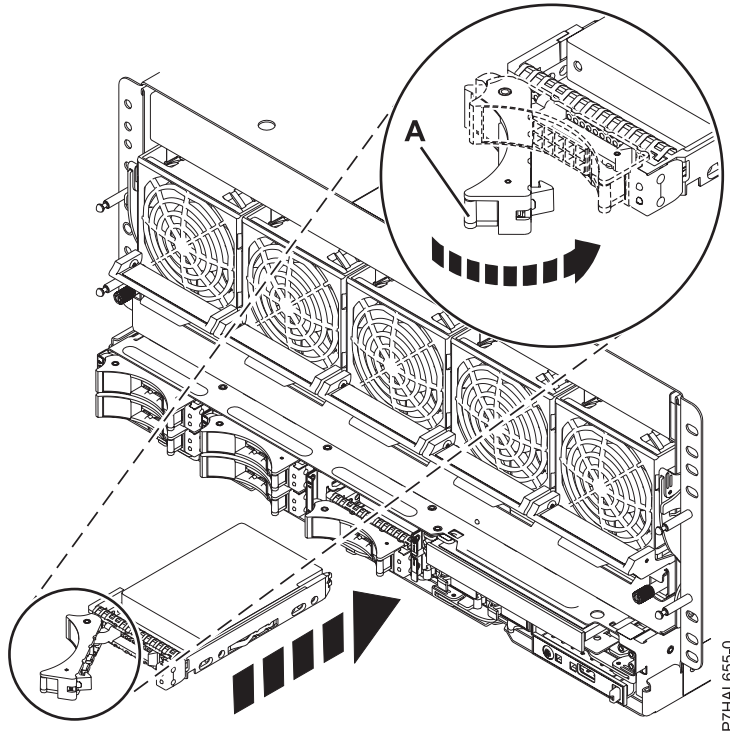

Figure 42. Replacing a disk drive in the system
8. When the identify LED turns on solid, slide the disk drive or solid-state drive all the way into the system or an expansion unit, and push the drive handle (A) in until it locks, as shown in Figure 42.